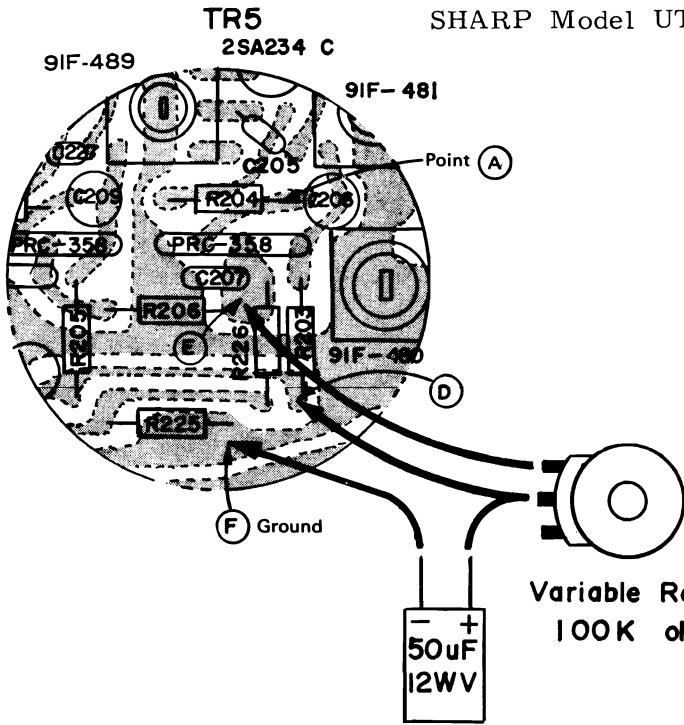

Figure 3 TEST POINTS ON P.C. BOARD
2. Connect a 50 MFD (12V) electrolytic capacitor between test point ① and ground ② (Fig. 3). Negative side of electrolytic capacitor should be connected to ground.
3. Connect a 100K OHM variable resistor between test point ③ and ④ (Fig. 3).